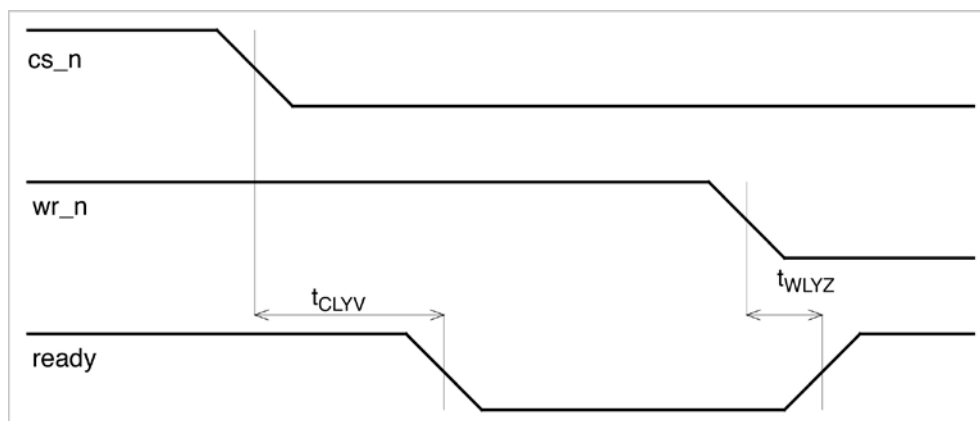

Figure 9. Mode 0 and Mode 1: Ready Timing for Write Cycle with No Write Pending
- Mode 0 and Mode 1: Ready Timing for Write Cycle with No Write Pending (Table 10 and 11/Figure 9)